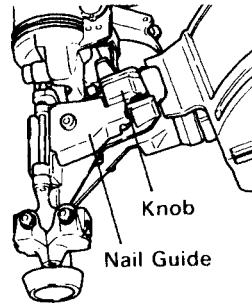

Fig. 21
- Occasionally clean the knob sliding part and then apply the recommended oil. (See Fig. 21.)